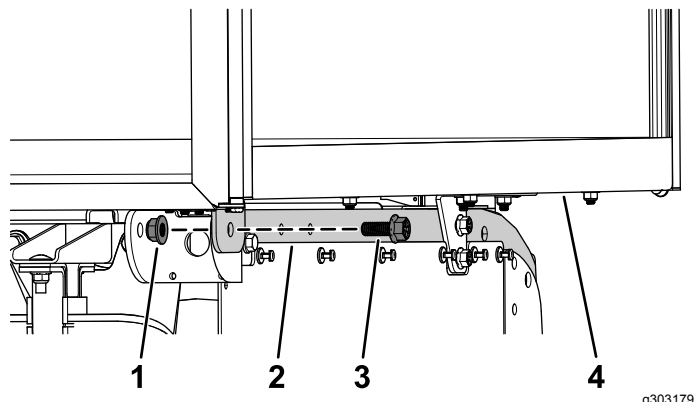

Figure 8
3. Secure the rear of the utility van box to the rear of the frame tubes using a flange-head bolt (1/2 x 1-1/4 inches) and a flange nut (1/2 inch) on each side (Figure 8).